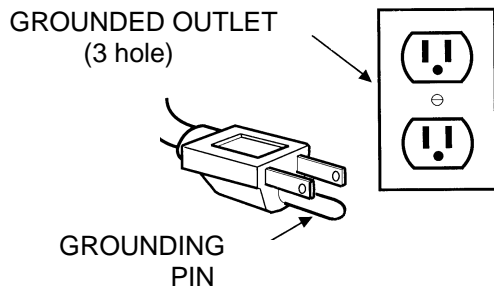

Fig. 3
4. Plug machine's power cords into grounded wall outlets on separate circuits (Figure 3). Green circuit indicator light on switch panel illuminated confirms connection to separate circuits.